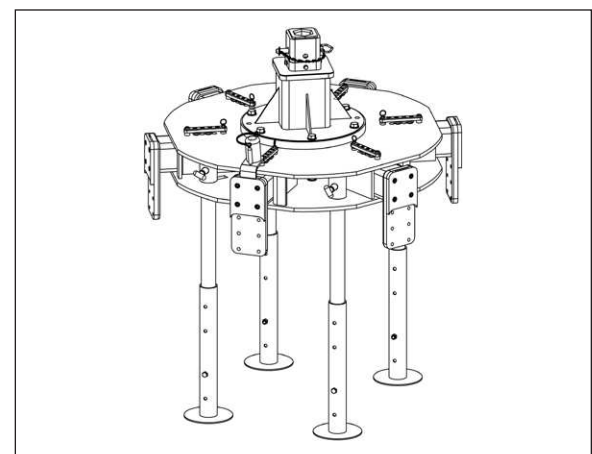

Figure 11. Six Shooter Resting On The Ground
11. Lower the Six Shooter to the ground until it is supported by the legs, as shown in Figure 11.